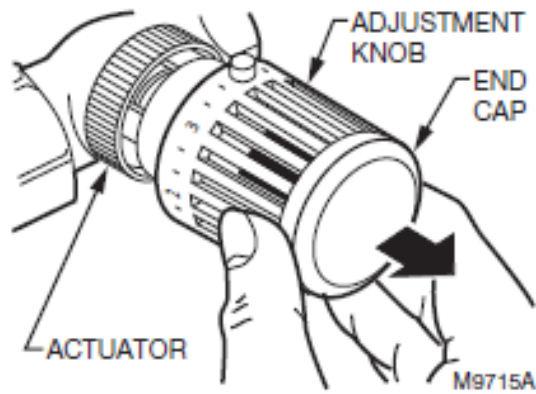

Fig. 6. Lift the end cap off the adjustment knob.
- 2. Lift the end cap off the adjustment knob. See Fig. 6.